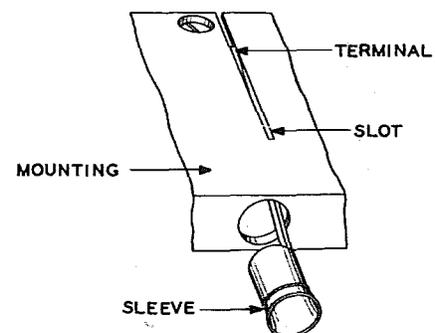

FIG. 6 - METHOD OF INSERTING SLEEVE INTO 49 TYPE JACK
3.14 In the case of 49 type jacks, hold the sleeve so that the terminal is at the right and insert it into the mounting so that the terminal will enter the slot, as shown in Fig. 6.